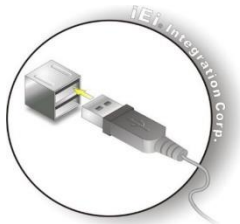

Figure 3-15: USB Connection
- Step 1:** **Locate the USB 2.0 connectors.** The locations of the USB connectors are shown in **Figure 3-15**.
- Step 2:** **Align the connectors.** Align the USB device connector with one of the connectors on the I/O panel. See **Figure 3-15**.